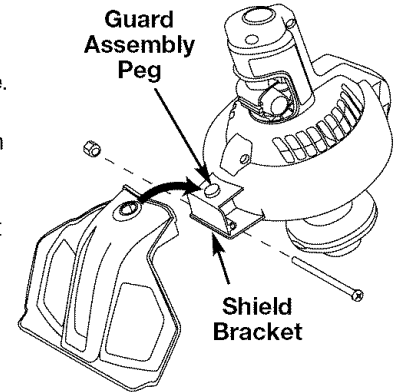

Fig. 3
1. Place the narrow end of the cutting attachment shield over the shield bracket and position it so that the circular cut-out slips over the guard assembly peg (Fig. 3).